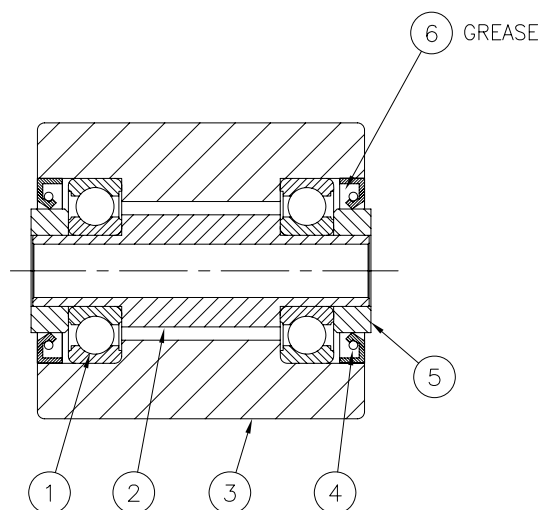

Figure 4.7 - Roller Assembly: Model S26
4.3.4 Roller Assembly Installation - Model S26 (See Figure 4.7)